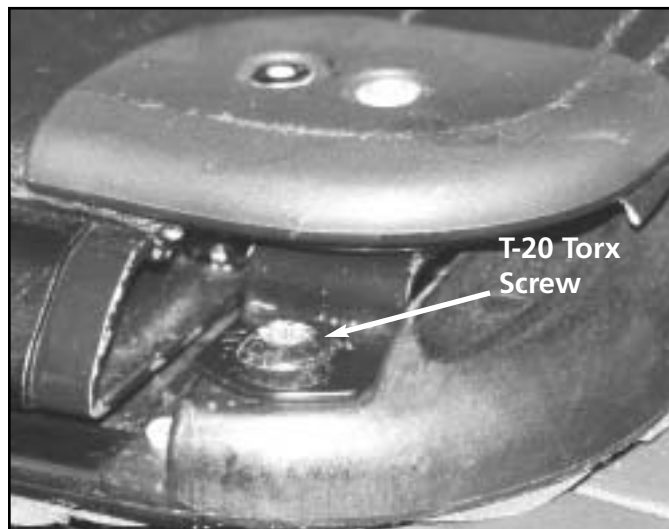

Figure S-39
1. Remove the front two (2) T-20 Torx bolt located on either side of the front rail. See figure S-39.
21. Install the two (2) T-20 Torx screws into the slider retainer and front rail assembly and tighten. Refer back to figure S-39.